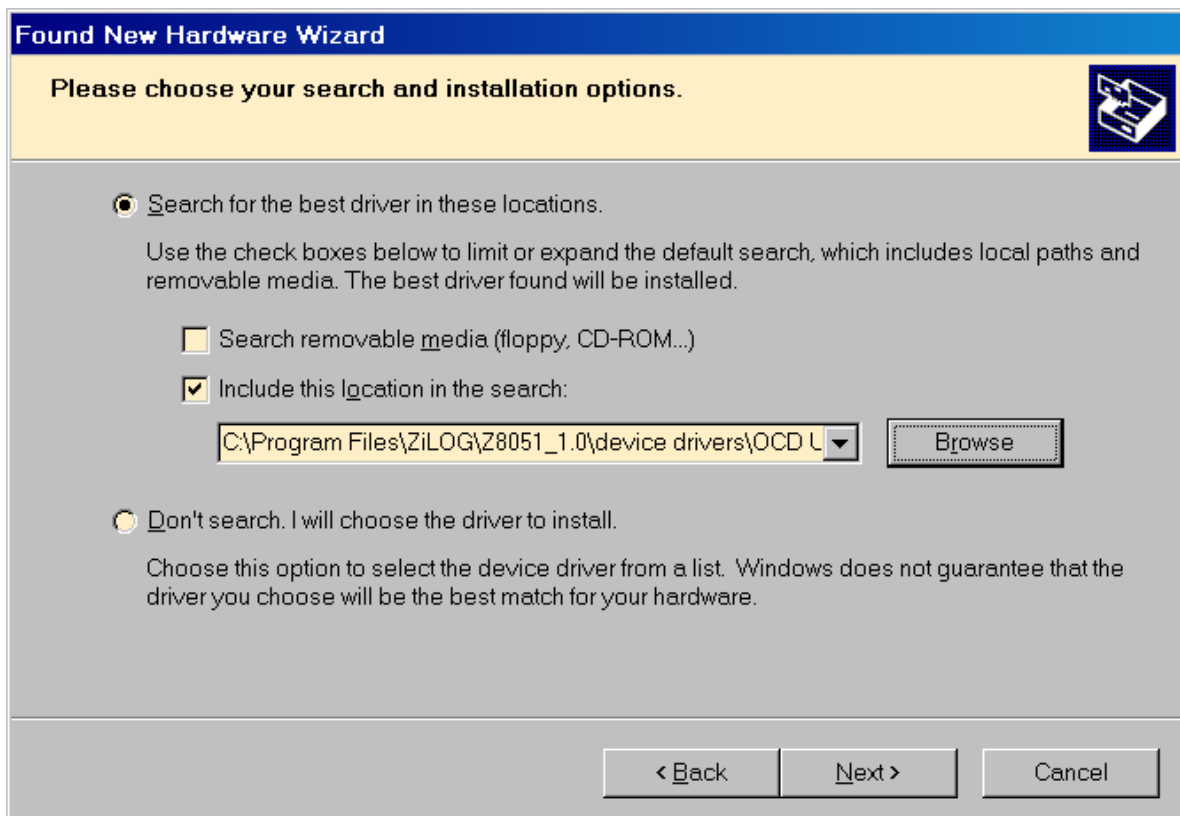

Figure 38. The Found New Hardware Wizard's Browse Screen
3. The next dialog box, shown in Figure 38, prompts you to enter a path or navigate to the directory in which the .inf file was installed. Depending on the type of computer you use (32-bit or 64-bit), use the **Browse** button to navigate to one of the following paths and click the **Next** button, leaving all other selections at their default settings.